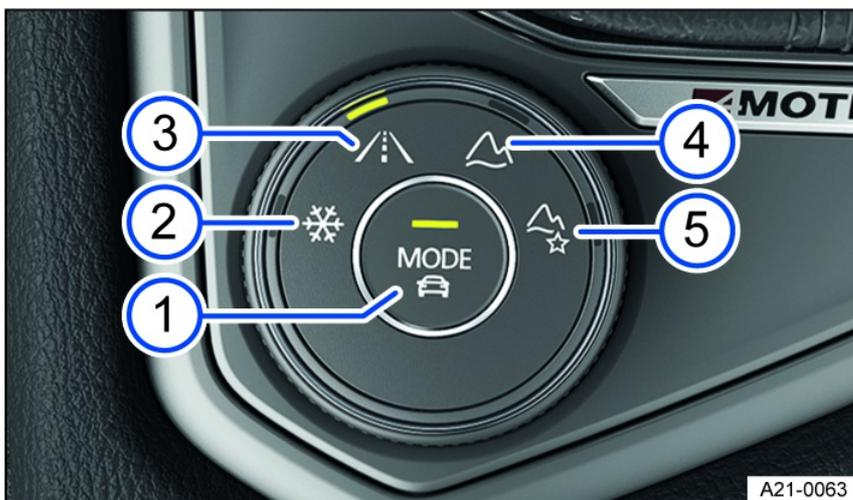

Fig. 121 In the center armrest: 4MOTION Active Control rotary switch.
1. Turn the dial until the LEDs next to the preferred driving mode comes on *fig. 121*.
2. To switch to the onroad driving modes, press the  button on the dial *fig. 121* ① or tap **Onroad driving mode** in the Infotainment system.
Or: if the Offroad Custom driving mode is already selected, press  on the dial *fig. 121* ①.